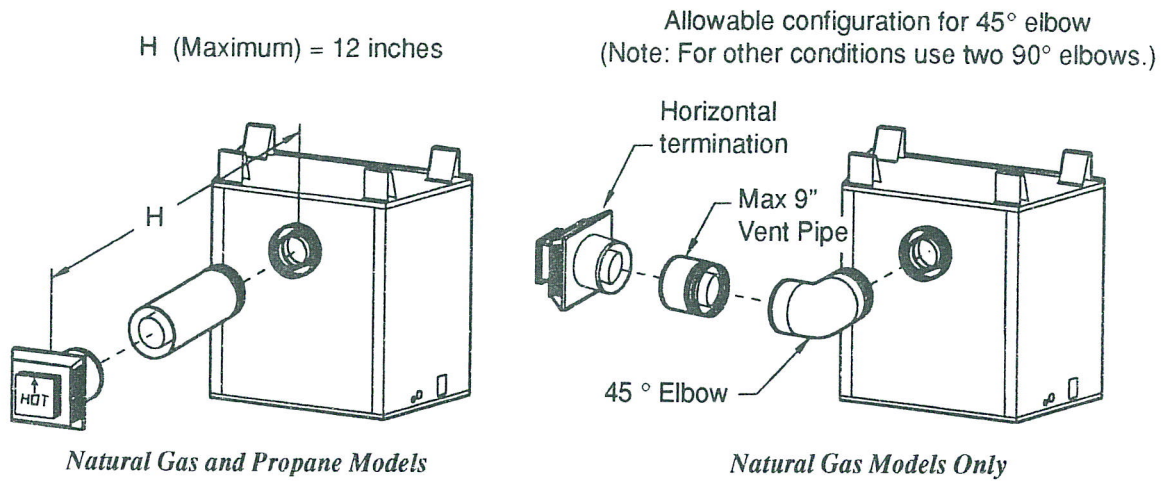

Figure 10: Maximum Allowable Horizontal Venting Straight Out the Back of the Unit
- Straight horizontal venting shown in Figure 10.
- Straight venting with 45° elbow shown in Figure 10.